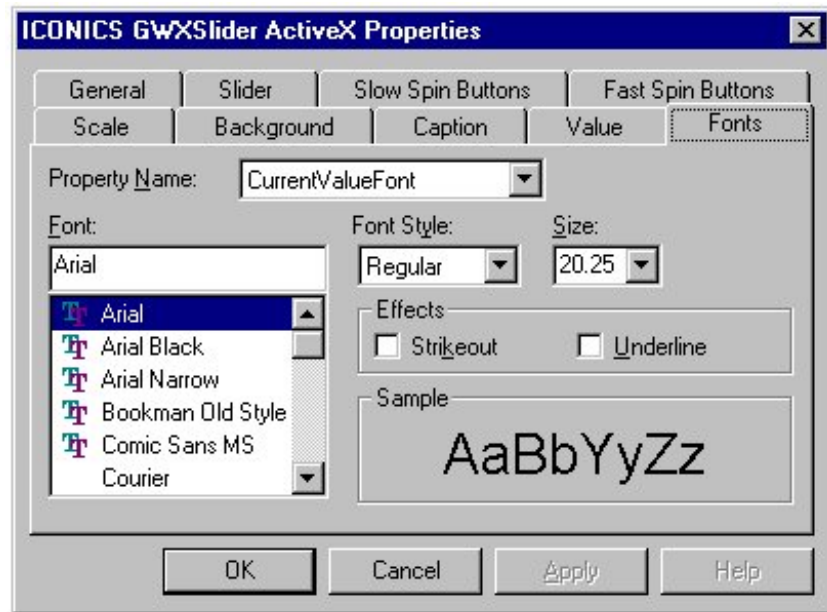

Figure 17-12: GWXSlider ActiveX Properties Dialog Box: Fonts Tab
2. Select the Fonts tab (Figure 17-12).